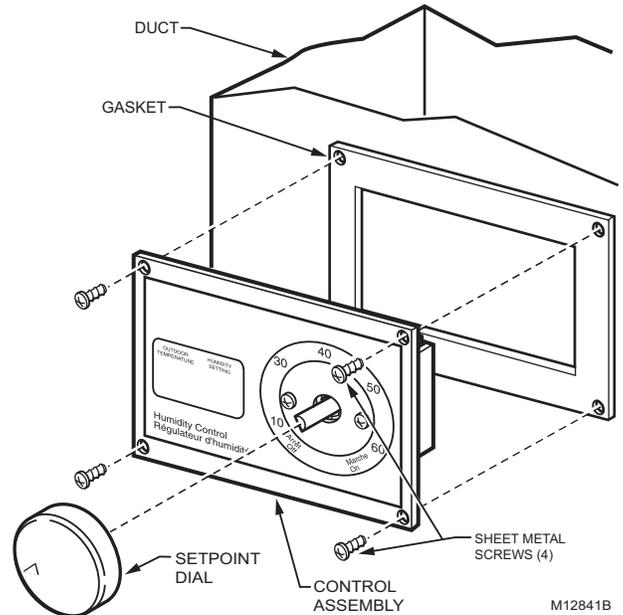

Fig. 42. Securing Humidistat to Duct.
9. Use four #6 x 1 in. Sheet Metal Screws to secure the assembly to the duct through the mounting holes. See Fig. 42.